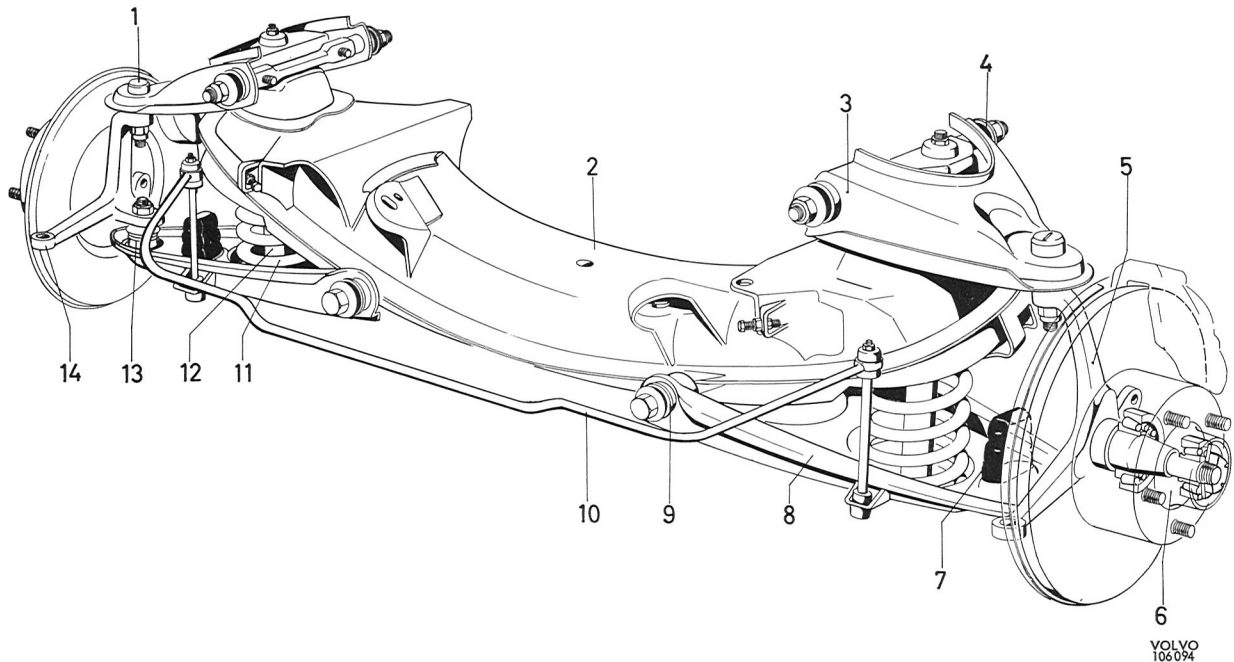

Fig. 6-13. Front axle
The vehicle has independent front wheel suspension. This means that there is no actual front axle, this being replaced by a robust box-section front axle member, which is bolted to the self-supporting body. The front wheel suspension and springs are attached at the ends of the member. The construction is illustrated in Fig. 6-13.
The front wheels are carried in taper roller bearings Fig. 6-13. The front spring assembly consists of coil springs (11) inside which telescopic shock absorbers (12) are installed. In order to increase its anti-roll properties, the car is equipped with a stabilizer (10) which is attached partly to the lower control arm and partly to the body.